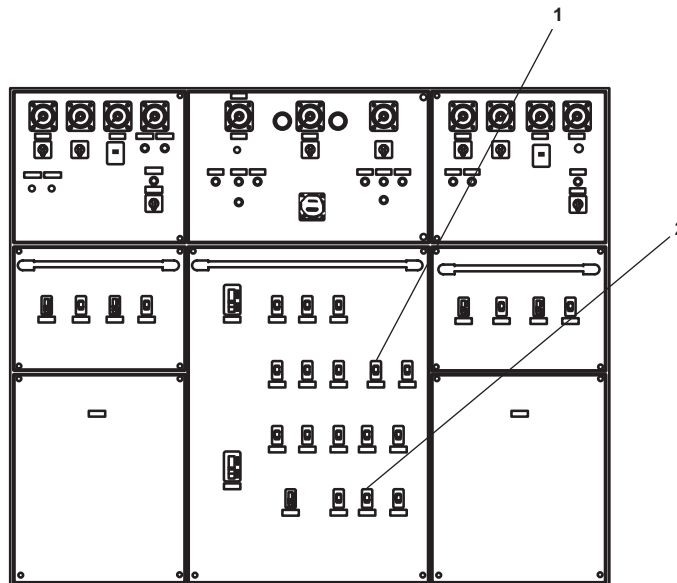

Figure 1. EOS Main Switchboard
- a. HOT POTABLE WTR HTR NO.2 (figure 1, item 1).
- b. HOT POTABLE WTR HTR NO.1 (figure 1, item 2).